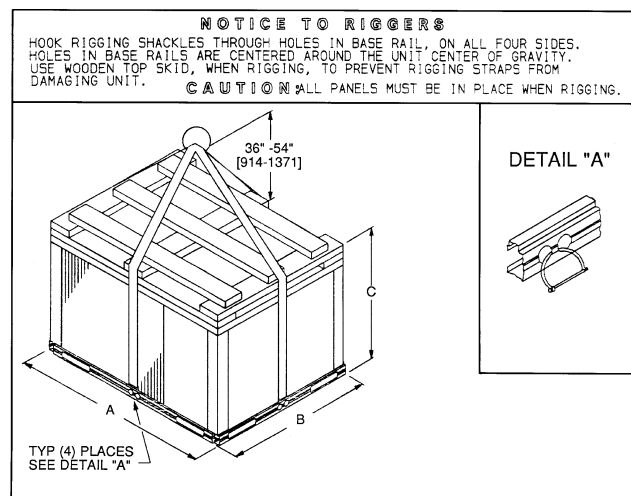

Fig. 3 — Rigging Label
- See Fig. 3 for additional information.
RIGGING — These units are designed for overhead rigging. Refer to rigging label for preferred rigging method. Spreader bars are not required if top crating is left on unit. All panels must be in place when rigging. (See Fig. 3.) As further protection for coil faces, plywood sheets may be placed against sides of unit, behind cables. Run cables to a central suspension point so that angle from the horizontal is not less than 45 degrees. Raise and set unit down carefully.